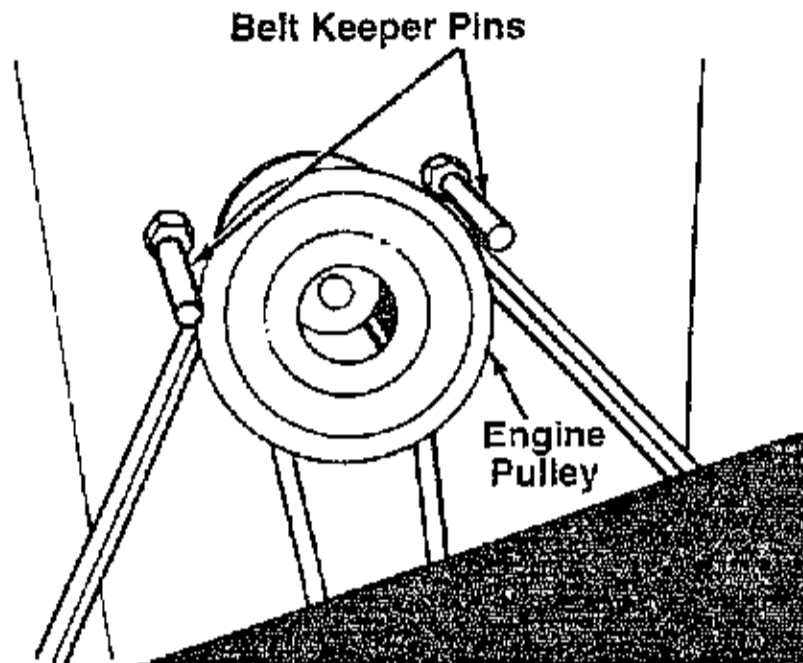

FIGURE 17.
NOTE: Figures 17 and 19 are shown with the unit tipped up for clarity. It is not necessary to tip the unit to remove the belts.
2. Remove the belt keeper pins from the engine pulley belt guard. See figure 17.
NOTE: When reassembling, make certain belt keeper pins are assembled in the same locations from which they were removed. See figure 17.